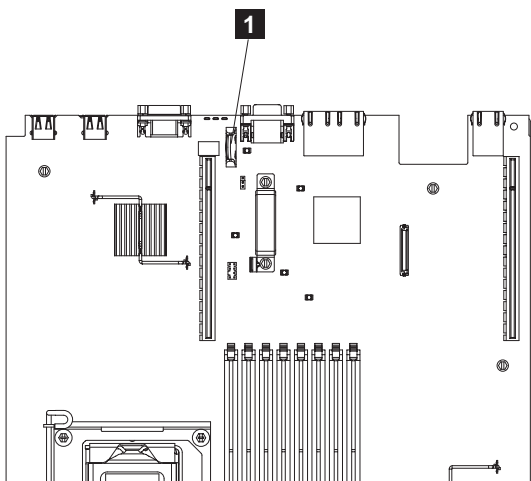

Figure 139. Location of the SAN Volume Controller 2145-CG8 or 2145-CF8 CMOS battery holder
2. Locate the battery on the system board. Figure 139 shows the location ( **1** ) of the battery on the system board.